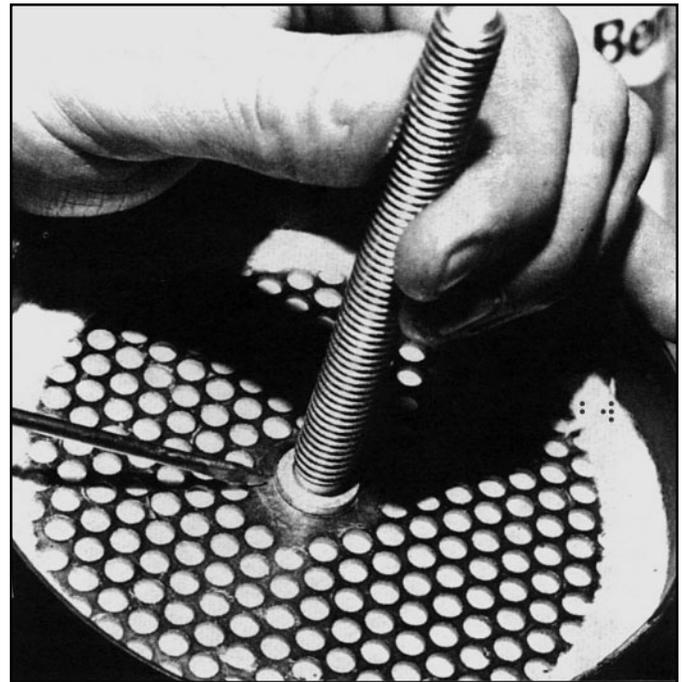

FIGURE 12
3. While holding the cartridge bolt reinstall the lock nut on the cartridge bolt. **IMPORTANT:** Before tightening the lock nut down make certain that the shoulder (the unthreaded portion) of the cartridge bolt extends slightly above the perforated desiccant plate (see Figure 12).
8. Level the desiccant material and install second perforated plate **cloth side down**. (Make sure the shoulder of the bolt is centered, and extends slightly above the top of the perforated plate.) (See Figure 12)